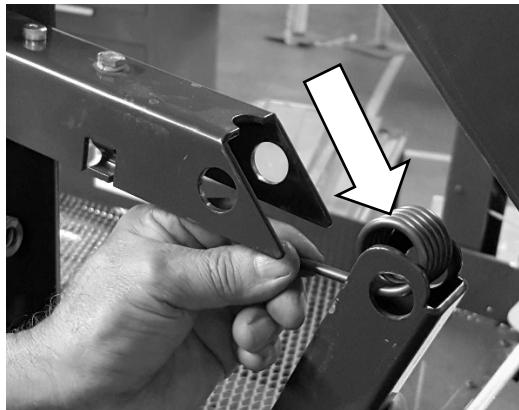

Figure 32. Install Actuator Spring
3. Refer to **Figure 32**. Re-install actuator spring on upper portion of Link Arm.